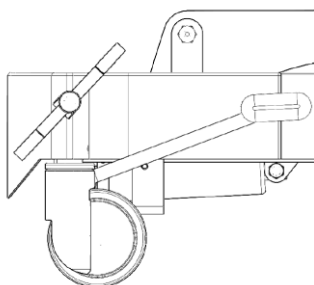

Figure 9
- 1) Prevents movement of the shower trolley during installation or when the patient is getting off. See Figure 9